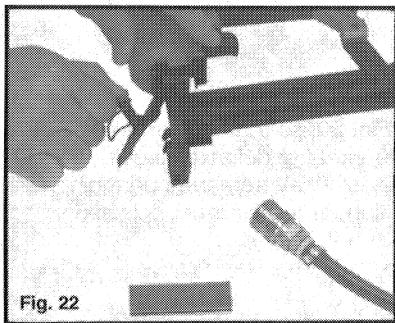

Fig. 22
3. Open the quick release latch and hinge fastener guide plate open (see Fig. 22).